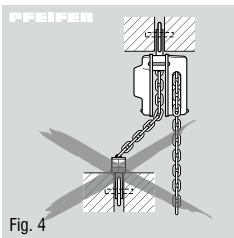

Fig. 4
- Parallel shear pull, i.e. lateral loading of the housing or the lower block, is forbidden (Fig. 4).